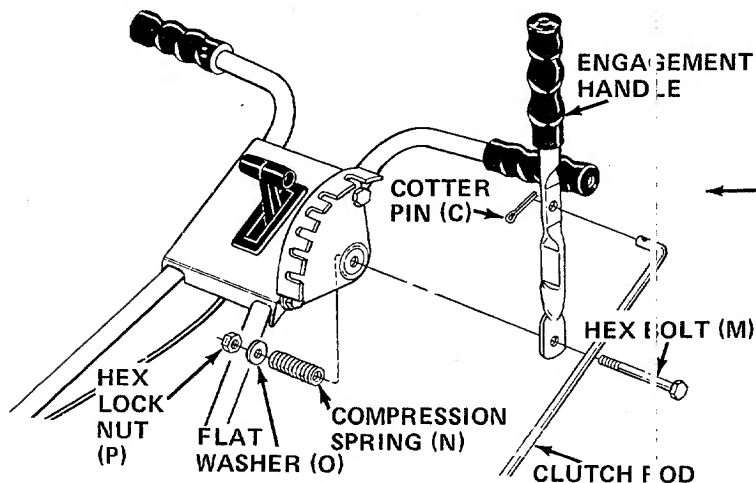

FIGURE 9
13. Place hex bolt (M) through bottom hole in engagement handle as shown in figure 9, then through hole in adjustment bracket.
14. Secure hex bolt with compression spring (N), flat washer (O) and hex lock nut (P) on the inside of the adjustment bracket.
15. Secure bent end of clutch rod half to engagement handle with cotter pin (C). See figure 9.